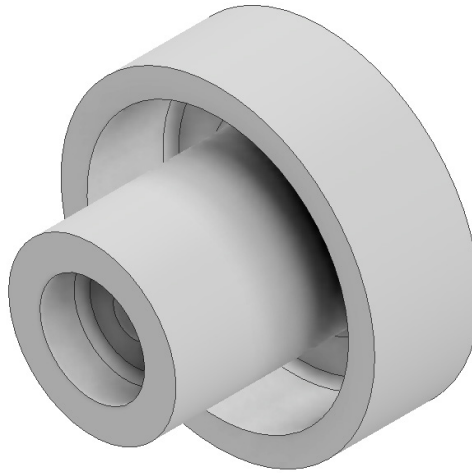

Figure 2-107 The model created on revolving the sketch
3. Accept the default values and choose the **OK** button from the **Properties-Revolution** dialog box. The revolved model is shown in Figure 2-107.